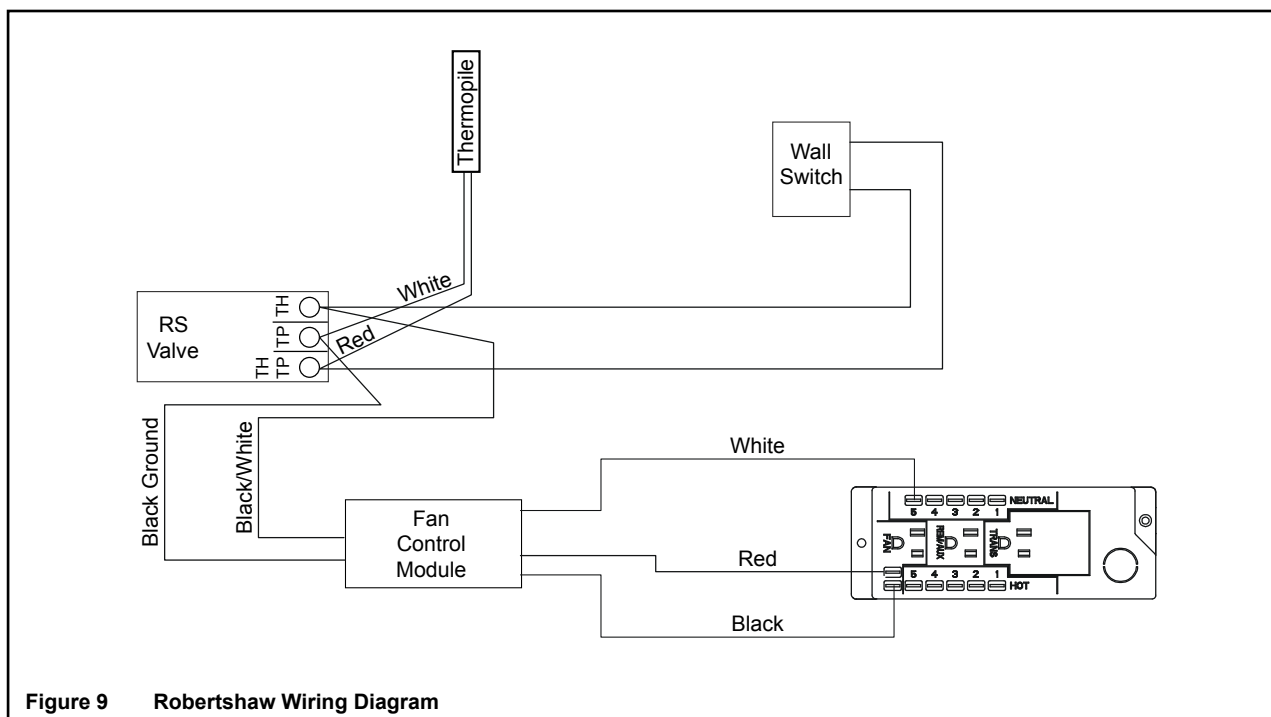

Figure 9 Robertshaw Wiring Diagram
**Note:** Fan control timer only for use on units with junction box pictured in Figure 9.
- Connect the black, white and red wires with 1/4 in. female connectors from the fan control module to the appliance junction box as shown in Figure 9.
**Note:** Thermopile must be wired as shown in Figure 9.